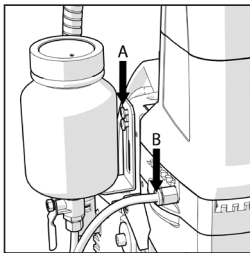

Fig. 3
- The coolant system should be fastened to the machine using the $\varnothing 6$ mm socket headed screw inserted into the threaded hole located at the top left hand side of the machines carriage. **(Fig. 3 a)**